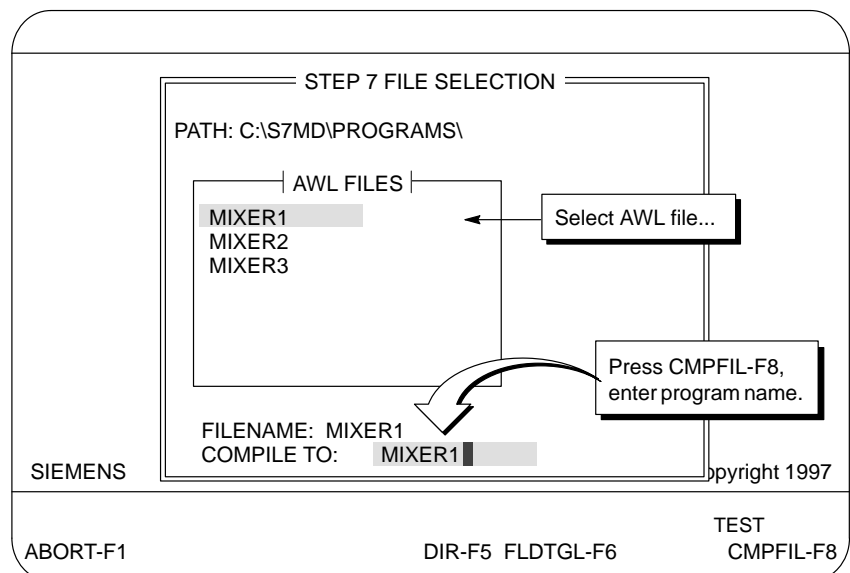

Figure 5-14 Selecting and Compiling a Text File
3. Select the text file to compile. See Figure 5-14. Pressing **DIR-F5** allows you to change directories (see Section 2.4); pressing **FLDTGL-F6** moves the cursor between the list of .AWL files and a filename or path prompt.
4. Press **CMPFIL-F8** to compile the text file into an S7-200 program file. (See Figure 5-14.) At the prompt, enter a program name.